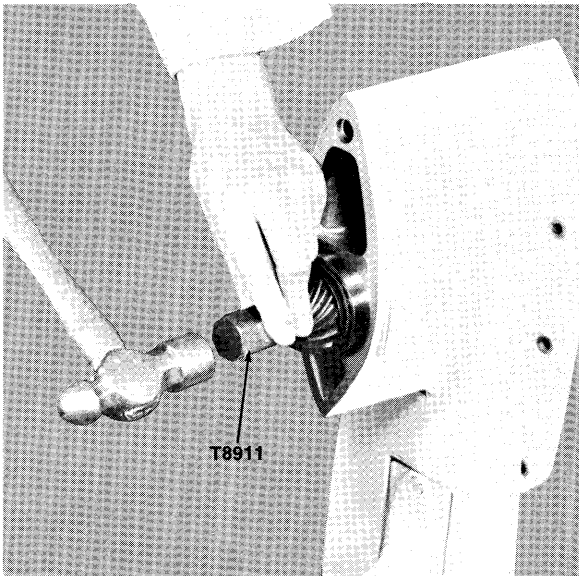

Figure 9—Seating Gear Housing Bearings
- G. Seat bearings (driveshaft and bevel pinion) by tapping knock-off nut (Special Tool T8911) with hammer two (2) times on end of driveshaft as shown in figure 9.